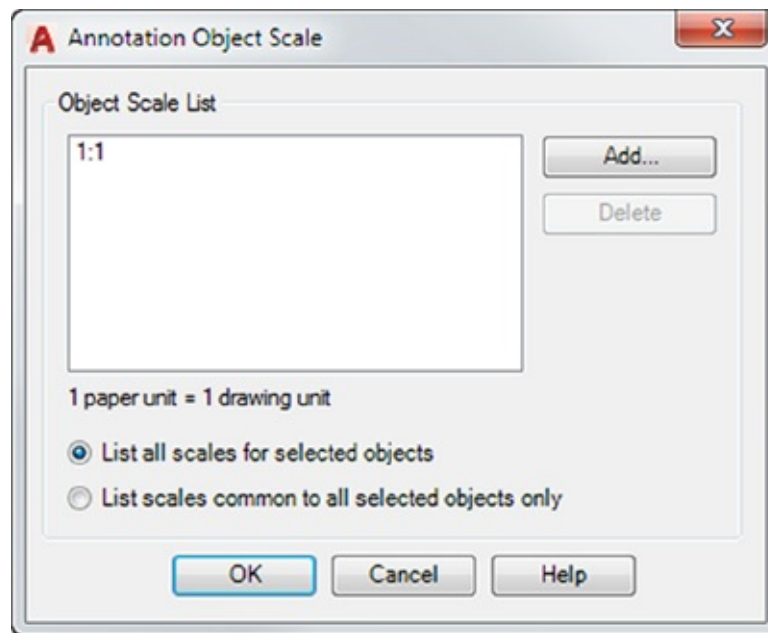

FIGURE 4.13 The Annotation Object Scale dialog box
2. Right-click and choose Annotative Object Scale > Add/Delete Scales. The Annotation Object Scale dialog box appears (see Figure 4.13).